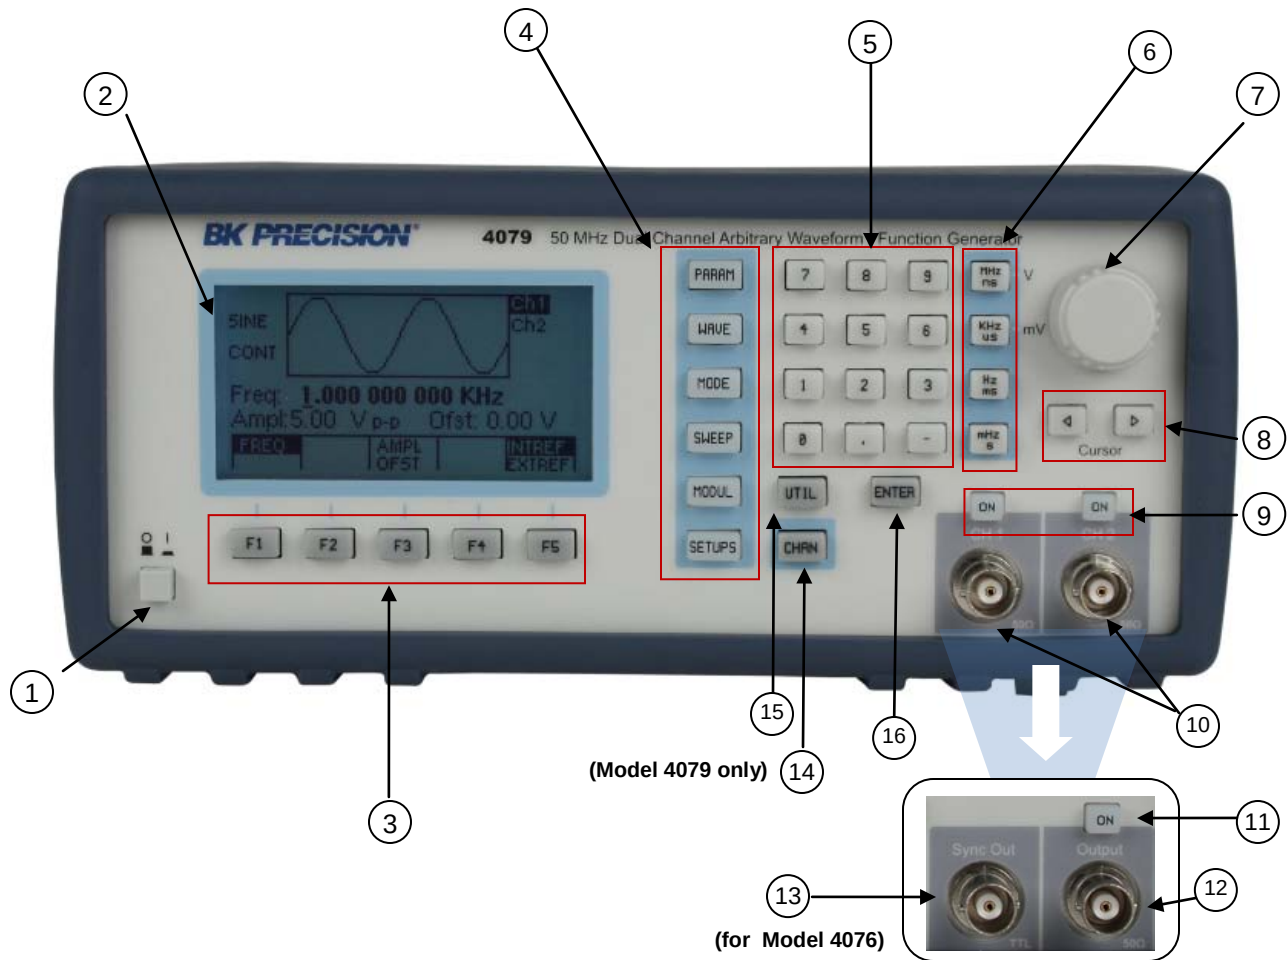

Figure 3.1 - Front Panel View
The front-panel controls select, display, and change parameter, function, and mode settings. They also include the keys you use to program and generate arbitrary waveform output. **Refer to Figure 3.1.**
2. **CH1 Sync** - This is the sync output of channel one. For model 4076 the sync output is in the front panel of the instrument (see Figure 3.1).
4. **CH2 Sync** - This is the sync output of channel two. For model 4076 the sync output is in the front panel of the instrument (see Figure 3.1).